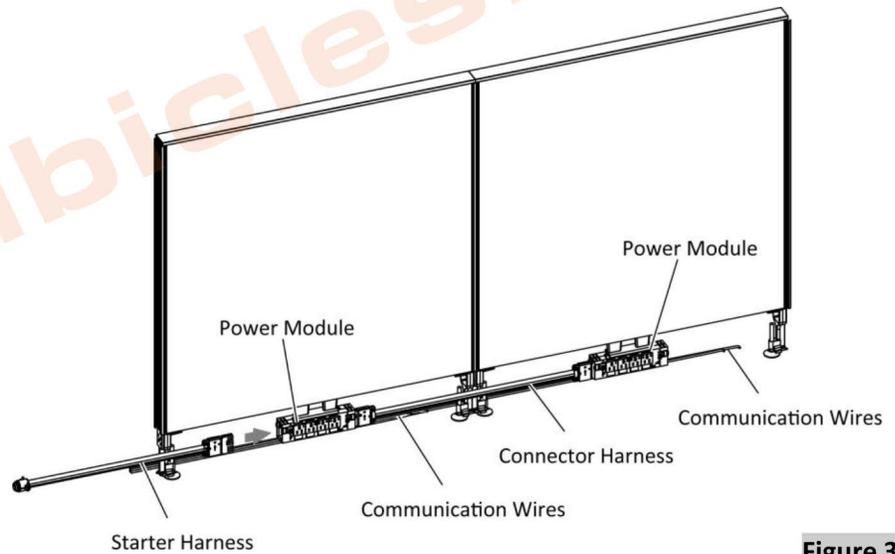

Figure 3
4. Connect the correct electrical harnesses and lay the communication wires, (Figure 3).